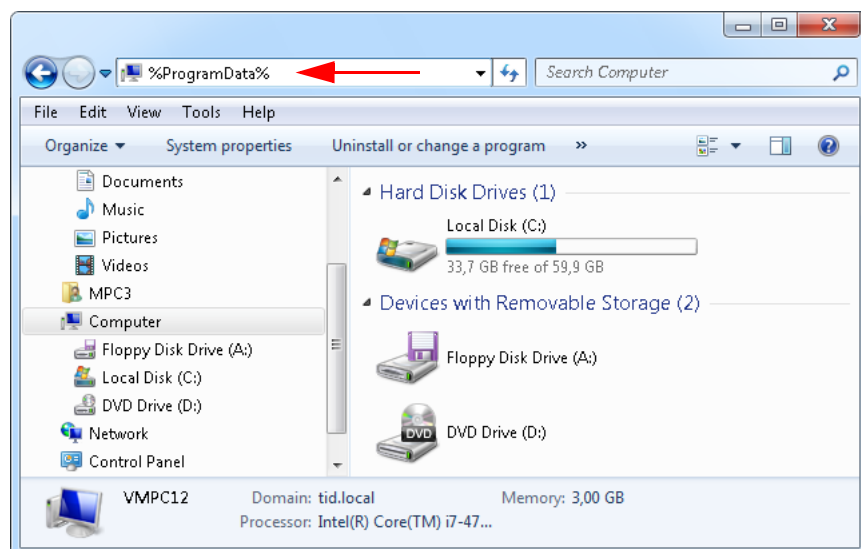

Fig. 6-18 Navigate to the (hidden) directory ProgramData
1. In Windows Explorer, type “%ProgramData%” in the address line (Fig. 6-18).